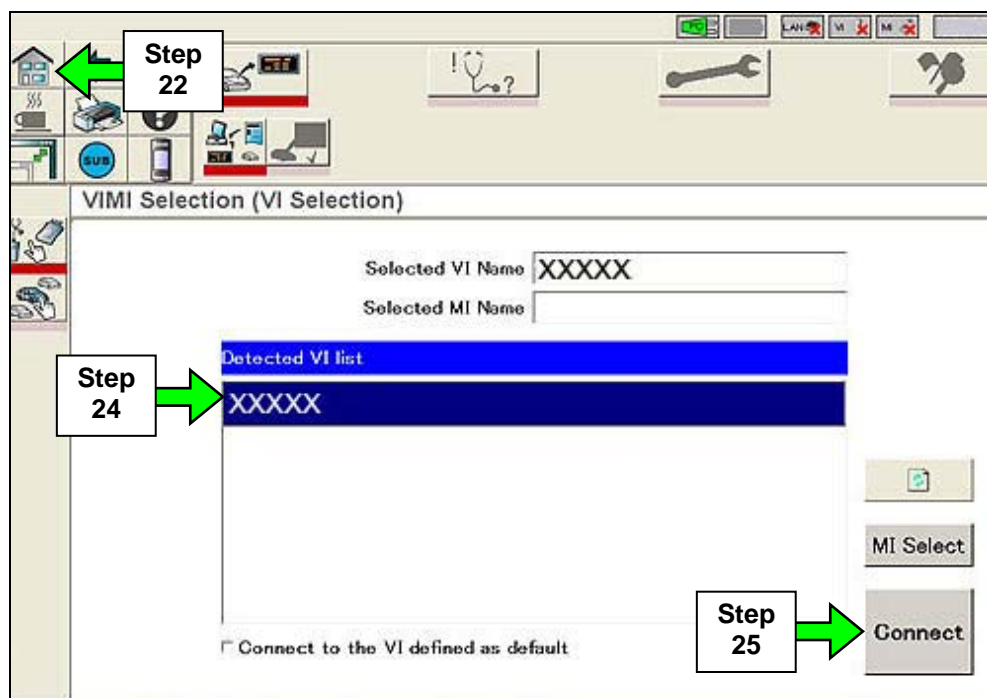

Figure 12
24. Select the detected VI from the list (see Figure 12).
25. Select **Connect** (see Figure 12).